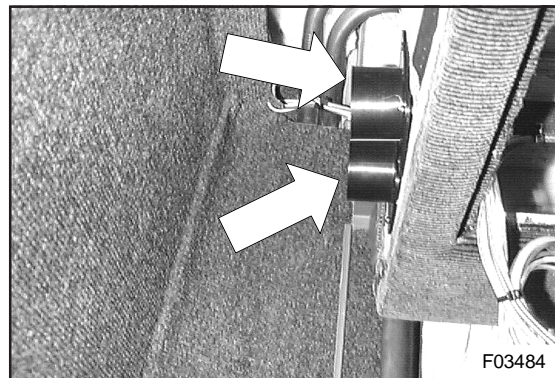

Figure 13: Installation of air hose mounting flanges to parcel rack bulkhead
4. Fit two air hose mounting flanges, one next to the other, over the rectangular feeder hole in the parcel rack bulkhead (see dotted lines A and B in Figure 11). First apply construction adhesive to mating surfaces, then secure mounting flanges with self-tapping screws (see Figure 13).